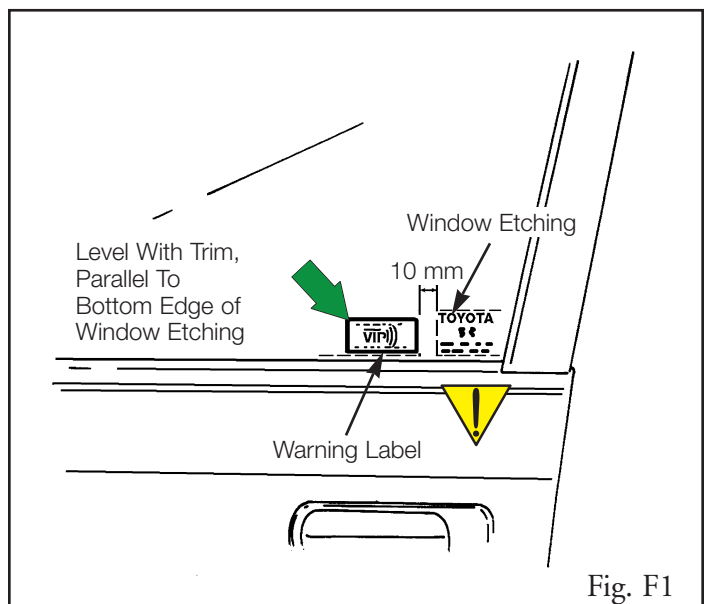

Fig. F1
1. Clean the inside surface on the front door windows. (Fig. F1)
2. Attach the warning labels to the inside surface of the door windows as shown. (Fig. F1)